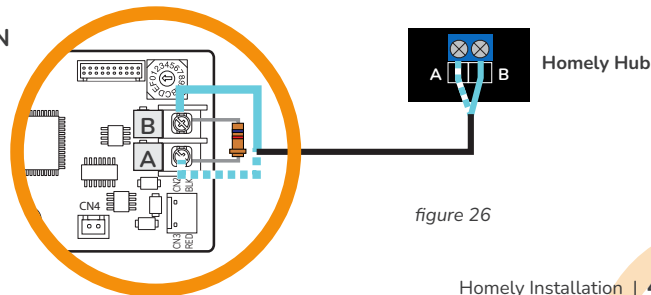

figure 26
3. The supplied 120-ohm resistor must be placed between the A and B terminals of the MIM-B19N as shown below (figure 26).